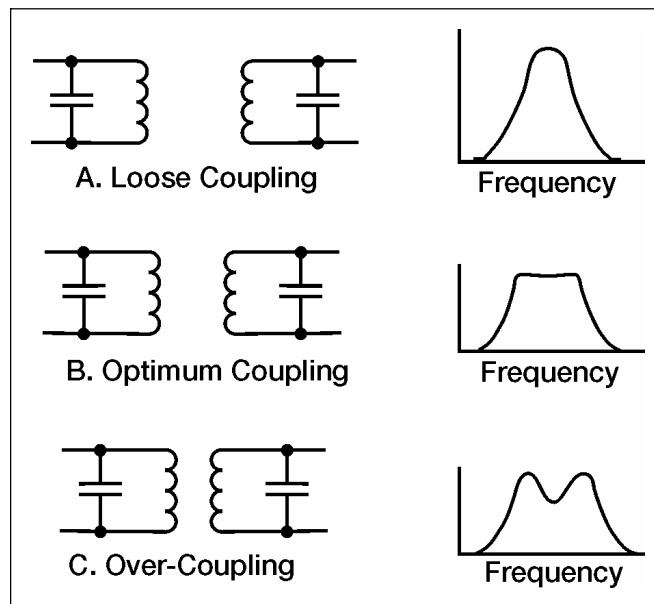

Figure 6-15. Effect of Coupling on Frequency Response
6-63. Figure 6-15 shows the effect of coupling on frequency response when parallel LC circuits are made from the primary and secondary windings of transformers. In view (A), the transformer is loosely coupled (the frequency-response curve shows a narrow bandwidth). In view (B) the transformer has optimum coupling (the bandwidth is wider and the curve is relatively flat). In view (C) the transformer is over coupled (the frequency-response curve shows a broad bandpass, however the curve “dips” in the middle showing that these frequencies are not developed as well as others in the bandwidth).